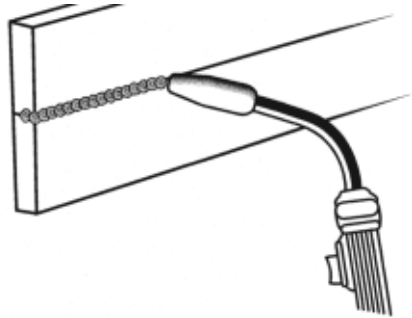

Figure 22. Horizontal Position
2. The **HORIZONTAL POSITION** (Figure 22) is next in difficulty level. It is performed very much the same as the flat weld except that angle B (see **HOLDING THE GUN** - p.19) is such that the wire, and therefore the arc force, is directed more toward the metal above the weld joint. This is to help prevent the weld puddle from running downward while still allowing slow enough travel speed to achieve good penetration. A good starting point for angle B is about 30 degrees **DOWN** from being perpendicular to the work piece.